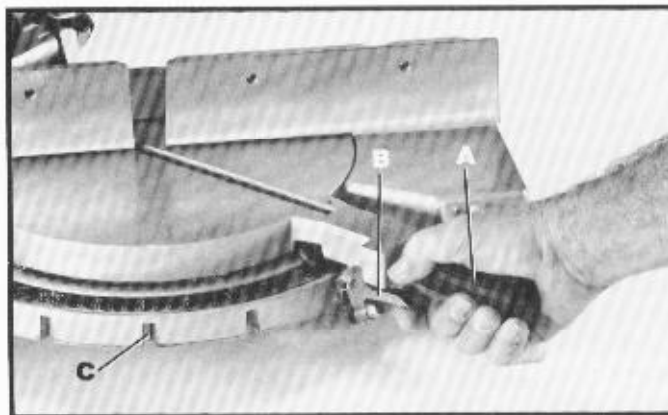

Fig. 5
1. Loosen handle (A) Fig. 5, one turn, and pull out plunger trigger (B) as shown. Rotate table to the left until plunger engages with the 90 degree stop (C). Then tighten handle (A).